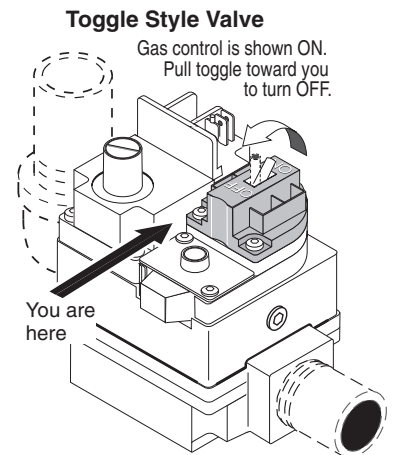

Figure 38.
- Toggle-Style Valve:** Pull toggle toward you to turn gas off, see **Figure 38**.
- Wait five (5) minutes to clear out any gas. If you then smell gas, **STOP!** Follow “B” in the “Before Start-up” instructions (page 38). If you don’t smell gas, go to the next step.
- Toggle-Style Valve: Pull toggle toward you to turn gas off, see Figure 38.